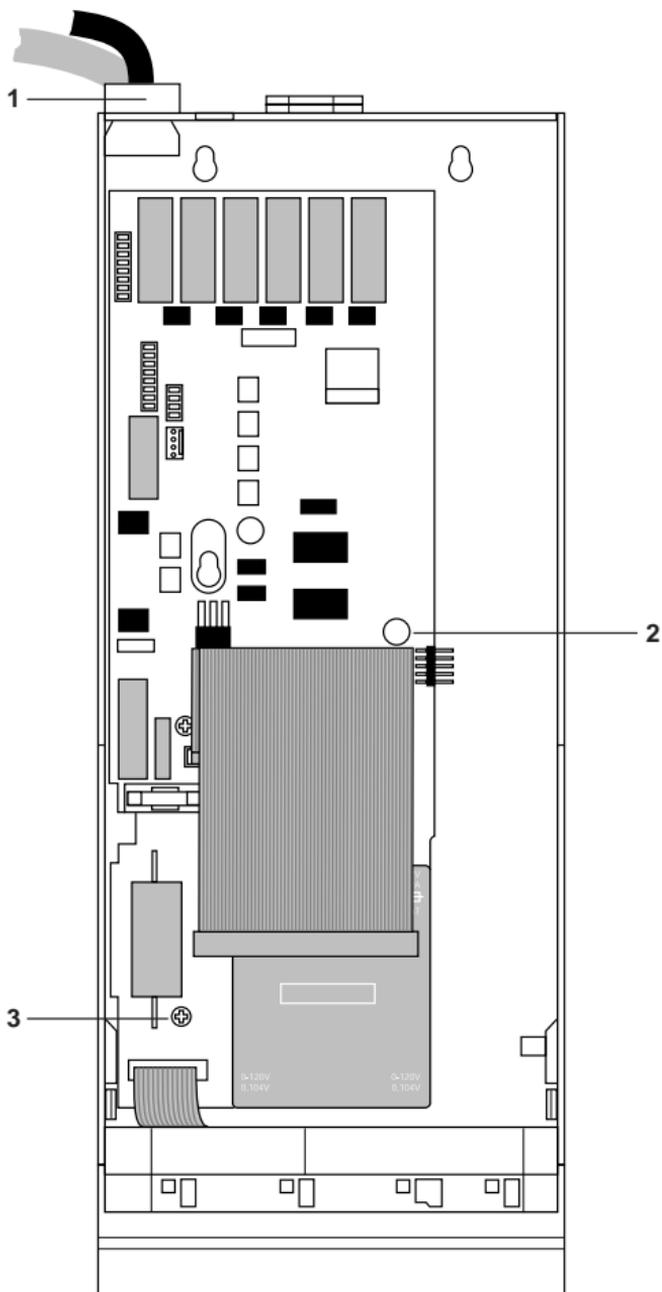

Fig. 13: Replacing the changer's PCB
- 5** Remove screws **2** and **3** (see Fig. 13).